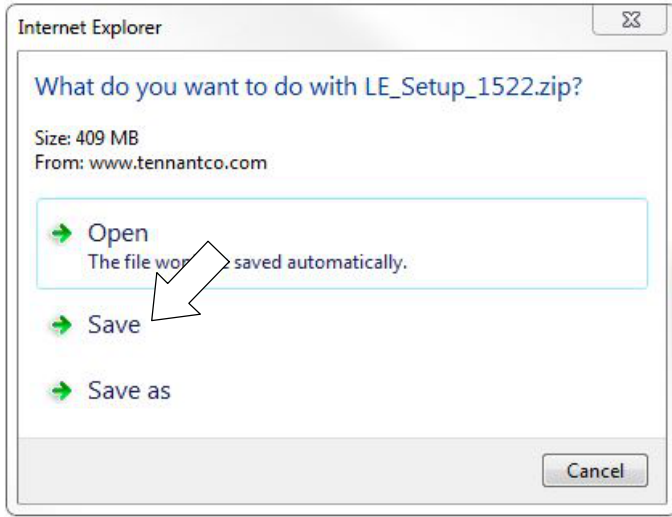

Fig. 14
5. To download the service software continue to click as instructed then click the Save button (Figure 14).